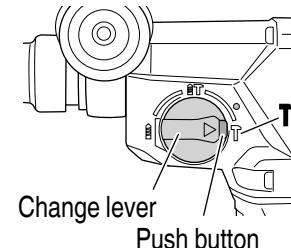

Fig. 27
This rotary hammer can be set to hammering only mode by pressing the push button and turning the change lever to the **T** mark (Fig. 27).
- (3) Turn the change lever to **T** mark (Fig. 27).